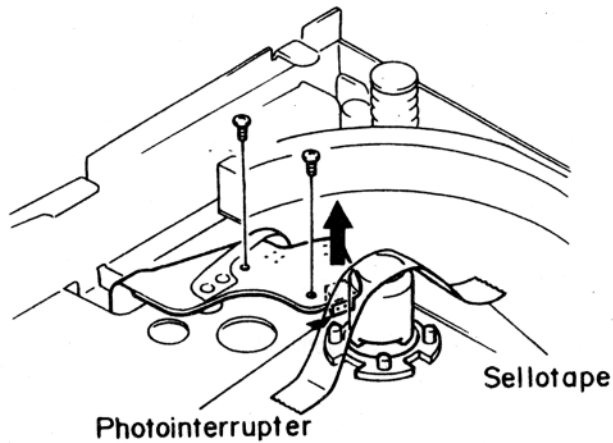

Fig. 2.13.1
Refer to Figs. 2.13.1 and 2.13.2.
- (1) Remove the UD Link Arm SL. Refer to item 2.11.
- (2) Remove the two screws and lift the edge of the Mecha Flexible P.C.B. Ass'y to remove the Photointerrupter from the chassis. Refer to Fig. 2.13.1.
- (3) Apply Sellotape to the Disc Lock SL Ass'y as shown in Fig. 2.13.1 to prevent the Disc Lock from falling off while removing the Disc Lock Arm SL.
- (1) Place the Disc Lock Spring SL as shown in the figure.
- (2) Insert the Disc Lock Pinion into the hole of the Disc Lock Arm SL.
- (3) Adjust the position of the Disc Lock Arm SL until its mark meets the V-cut of the Disc Lock Pinion as shown in the figure.
- (4) Insert the shaft hole of the Disc Lock Arm SL into the shaft.
- (5) Hook the end of the Disc Lock Spring SL on the chassis hole as shown in the figure.
- (6) Reassemble the cut washer F01 in place.
- (7) Peel off the Sellotape and fasten the screws to seat the photointerrupter. Refer to Fig. 2.13.1.